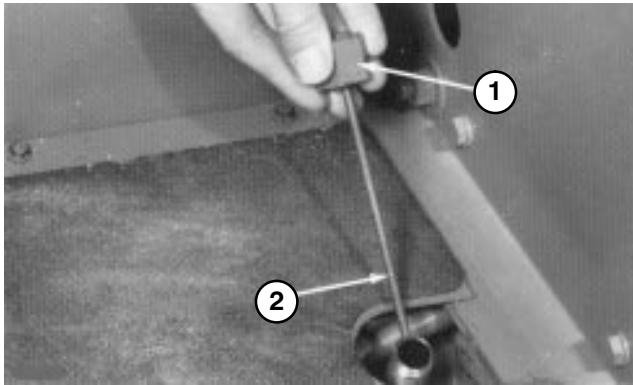

Figure 23
2. Unscrew dipstick cap (Fig. 23) from the filler neck and wipe it with a clean rag. Screw dipstick cap finger tight onto filler neck. Unscrew the dipstick and check level of oil. If level is not within 1/2 inch (13 mm) from the groove in the dipstick (Fig. 23), add enough oil to raise level to groove mark. DO NOT OVERFILL by more than 1/2 inch (13 mm) above groove.